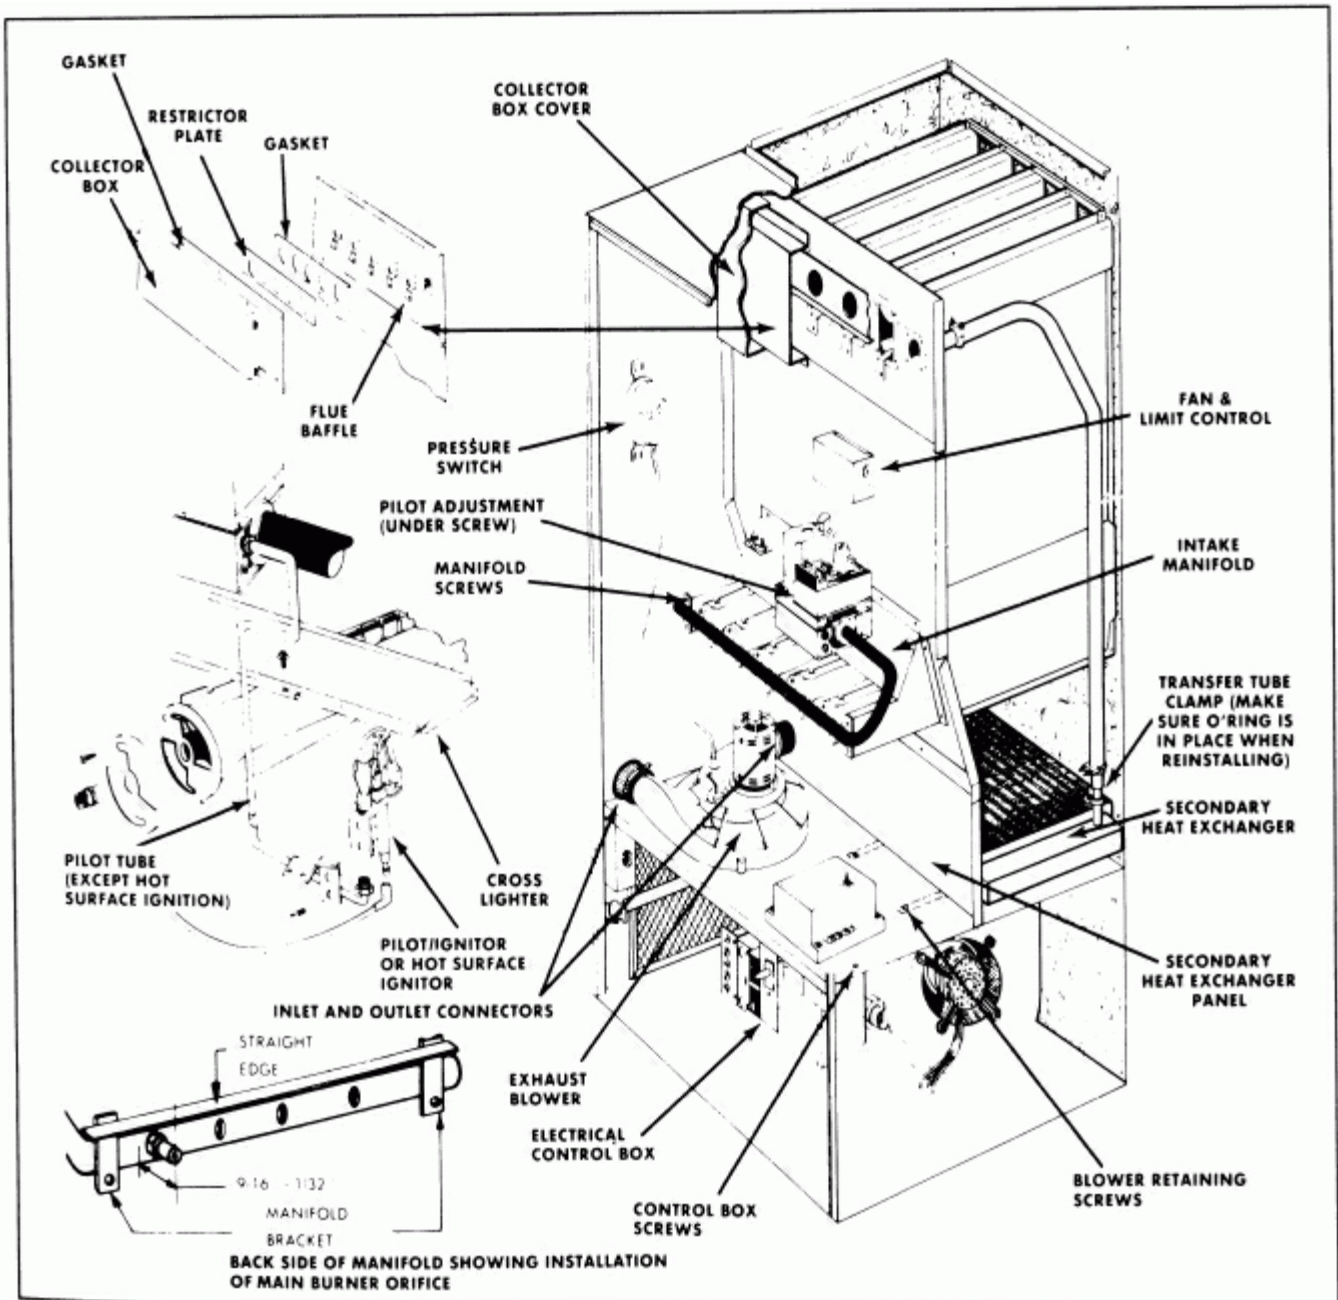

Figure 26
2. Disconnect pilot tube at gas valve, Figure 26.
3. Remove the four (4) screws holding the Manifold to the manifold brackets and remove, Figure 26.
- a. Tighten orifices so there is 9/16 " from the face of the orifice to the face of the manifold brackets. To check, place a straight edge across manifold brackets and measure to face of orifice as shown in Figure 26. Make sure orifice goes in straight so that it forms a right angle (90°) to the manifold brackets.
1. Remove the two retaining screws holding control box from the top of the blower deck, Figure 26.
3. Remove the two retaining screws holding blower in position in the slide rails, Figure 26.
SECONDARY HEATING EXCHANGER (INTERIOR CLEANING) DISASSEMBLY; (FIGURE 26)